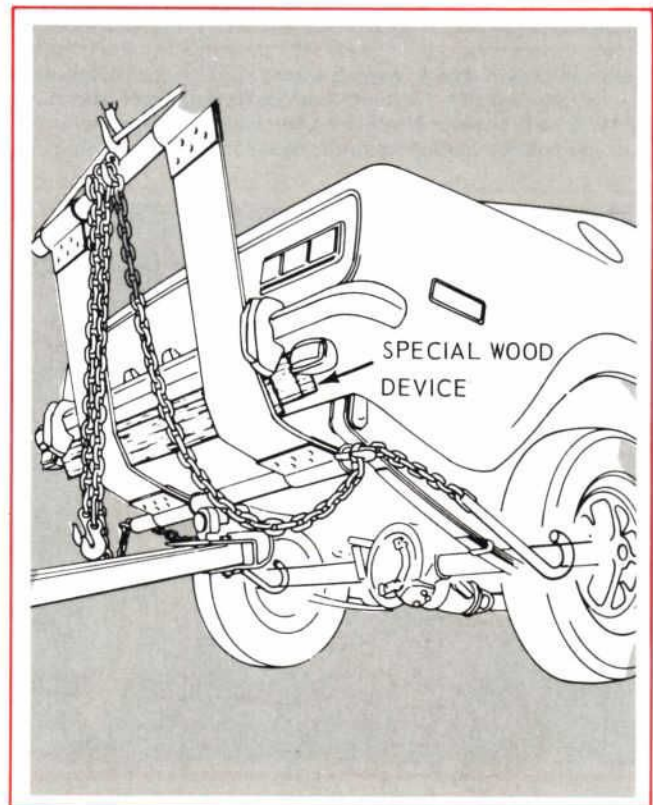

Figure 16—Note the position of the hooks, adapter and sling when the Capri is properly raised and prepared for towing safely.
3. Raise the sling until the rear tires are approximately 14" off the ground. This will assure that the sling does not bear against or contact the rear bumper face bar. See Figure 16.